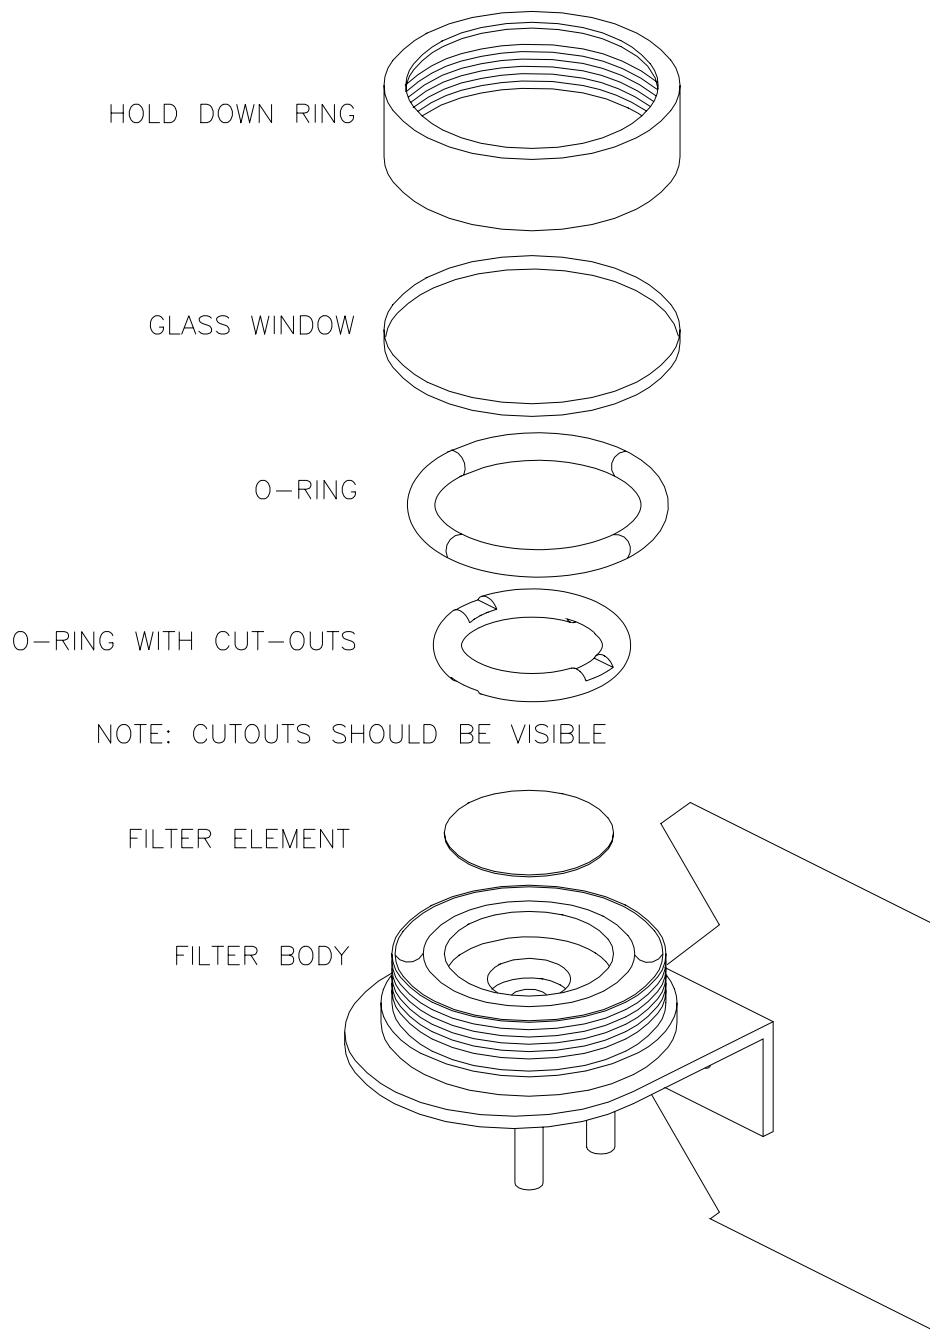

Figure 2 Replacing the Particulate Filter
2. Locate the filter on the left side of the analyzer front panel. See **Figure 2** for an exploded view of the filter assembly.